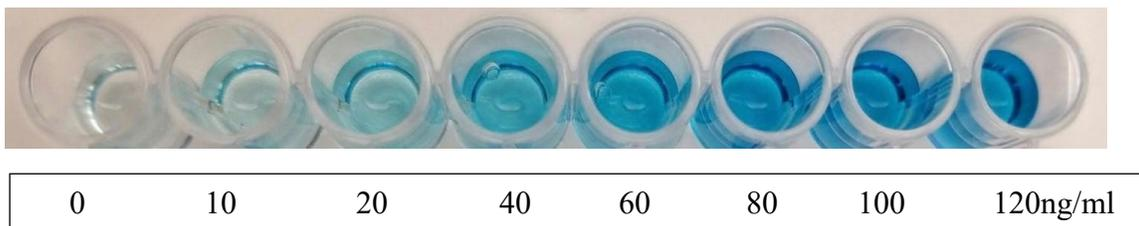

Figure 3. Anti IL-8 mAb standard curve wells before addition of Stop solution.
- 8.8.1. Add 100µl of TMB substrate to all wells and shake at 300 rpm for approximately 3-6 minutes, until a color gradient is observed in the standard wells, (usually 3-6 minutes). See Figure 3.